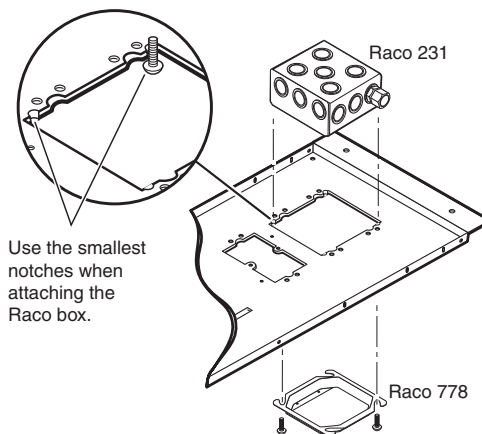

Figure 4. Install RACO Box and Plaster Ring.
- a. Attach the box to the plate, using the smallest notches in opposite corners of the cut-out (see figure 4). Do not tighten the screws fully at this time.